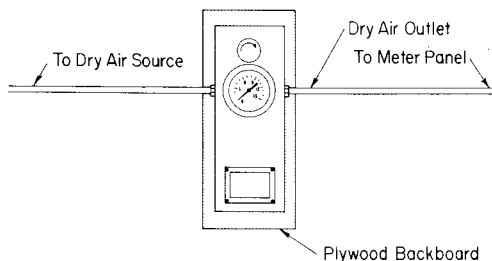

Fig. 2—KS-16648 Dual Pressure Kit Mounted on Plywood Backboard (Typical Installation)
2.02 A typical completed installation of the dual pressure kit is shown in Fig. 2.